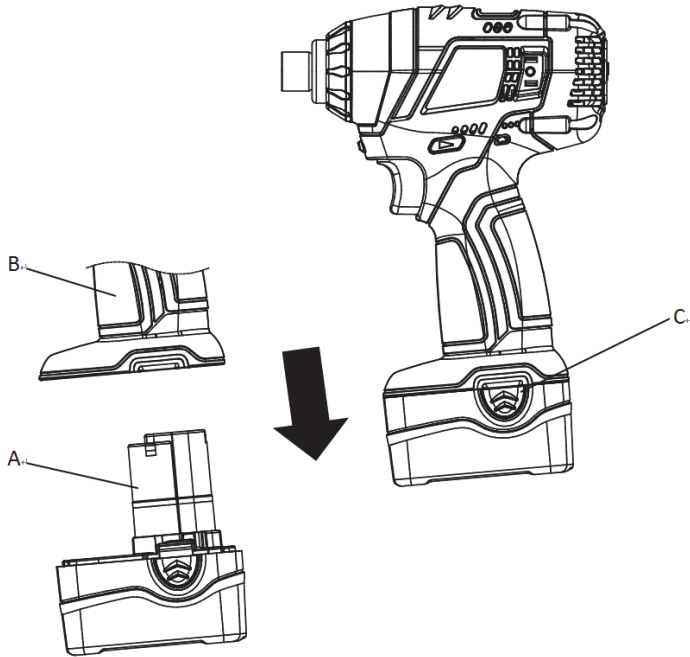

Fig. 2
TO REMOVE BATTERY PACK: Depress the battery release button (C) and pull battery pack (A) out of tool (B). (see Fig. 2)
TO INSTALL BATTERY PACK: Push battery pack (A) onto tool until it locks in place. (see Fig. 2)